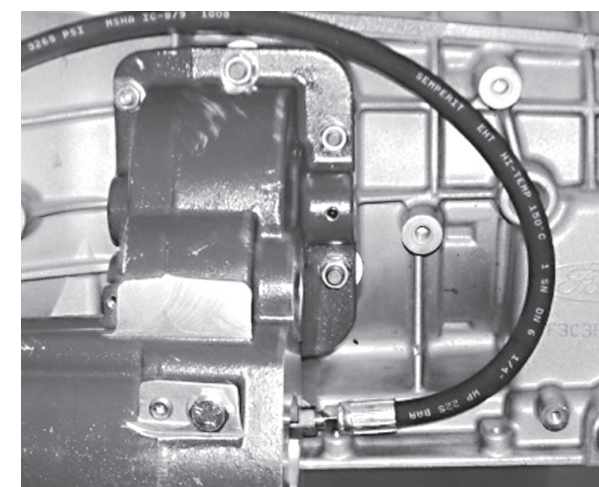

Figure 9. Pressure activation hose connection.
8. Reference steps 7-10 in the IN03-01 Installation and Owner's Manual, with the pressure activation hose installation into the main pressure port of the Ford transmission as shown in Figure 9.
9. Install the female end of the of JIC 45° elbow onto the male end of the JIC 90° elbow (included on the PTO) and position as shown in Figure 9. Install the female JIC swivel end of the nose onto the male end of the JIC 45° elbow (included in the activation kit.)